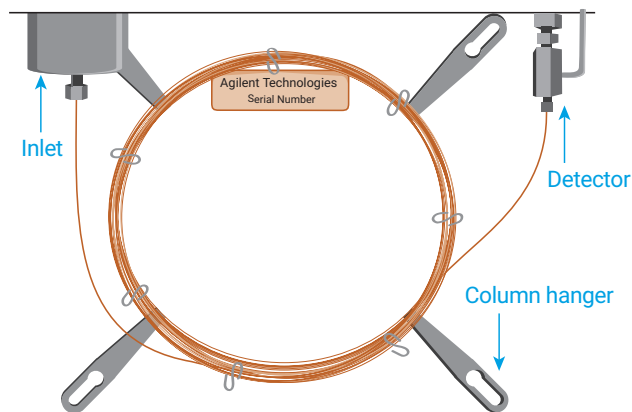

Figure 1A. Agilent DB-Sulfur SCD installed correctly, with the ID tag facing where the serial number can be read.
1. With the column oriented so that you can read the serial number on the ID tag (see Figure 1A), unwind approximately $\frac{1}{2}$ coil of tubing from the end of the back of the column nearest to the cage ring (see Figure 1B for proper column orientation). There should be enough column tubing to easily extend the end of the column to the GC injection port.
2. Position and hang the column cage ring onto the GC oven column hanger, as demonstrated in Figure 1A.